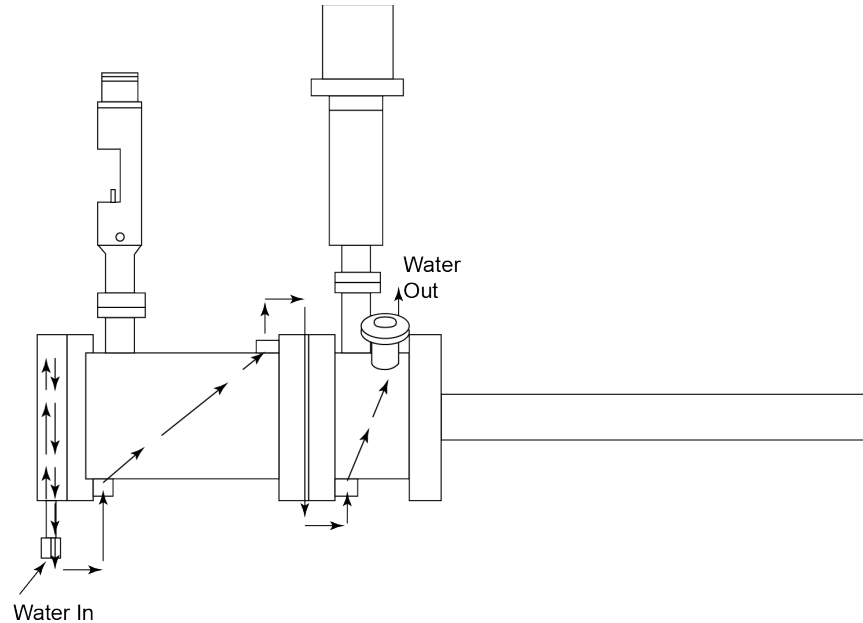

Figure6: Cooling Water Supply
7. **Connect the water cooling tubes.** Find the separate pieces of 1/4" poly tubing. Connect the tubing as shown in Figure 6. Connect the water supply to the water inlet at the bottom of the source. Connect the water return to the 1/4" tube located at the top rear side of the source. All water jackets have NPT to Swagelok fittings supplied. The only hardware required is the supply and return line. Use 1/4" poly tubing for connection.
The VC45-As is designed to be mounted on a standard 4.5" conflat flange. If you have not already done so, insert the source into the system flange using the proper size gold-plated copper gasket and bolt into place. Make sure the water connections are oriented as shown in Figure 6. No other alignment is required.